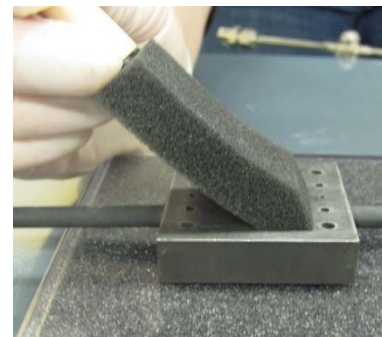

Figure 18
11. Apply approximately 0.5 grams of LSM ink in a thin even coat on the active area of the cathode manifold (Figure 18). Do not apply ink to the gas ports.